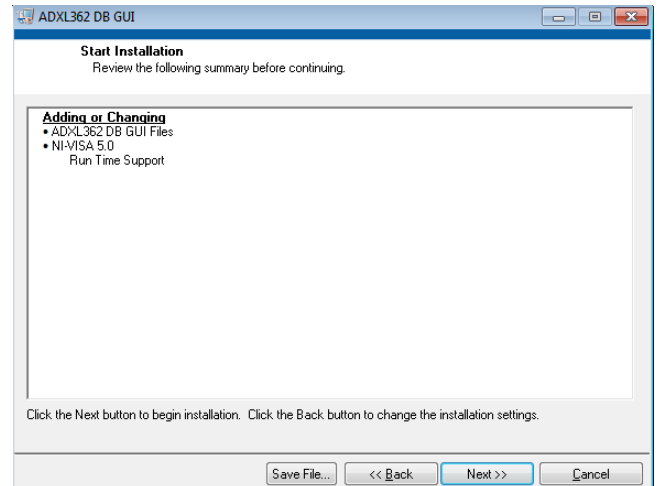

Figure 23. Start Installation (Listing Varies Based on PC Requirements)
3. The installer lists the required components to install on your PC (See Figure 23).